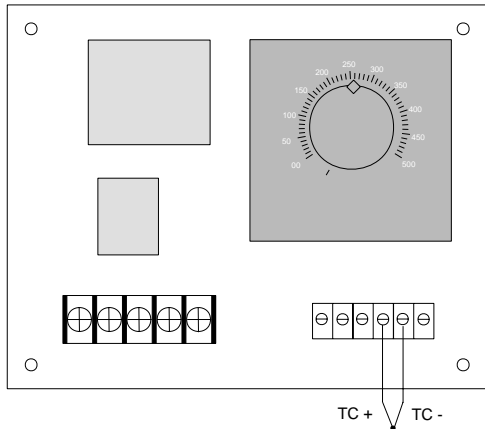

Figure 2a — Thermocouple wiring.
1. Locate and drill four 0.156 in (4 mm) holes in the desired panel location. See Figure 2a for hole locations.